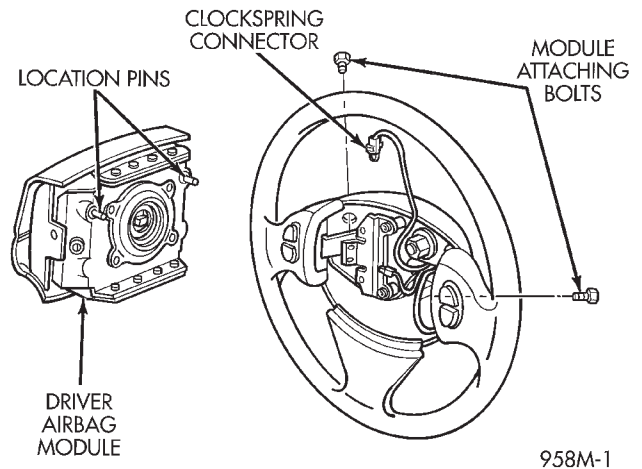

Fig. 6 Driver Airbag Module
- (2) Remove the Driver Airbag Module attaching T-30 Torx bolts from back side of the steering wheel (Fig. 6). Lift the module and disconnect the wire by: